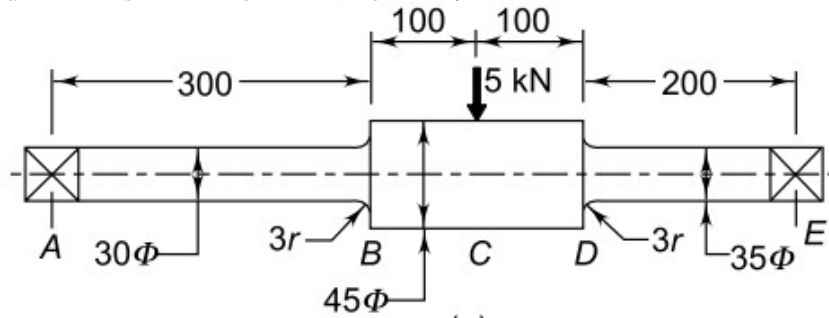

Fig. 1
Q.2(a) A rotating shaft, subjected to a nonrotating force of 5 kN and simply supported between two bearings A and E is shown in Fig. 1. The shaft is machined from plain carbon steel 30C8 ($S_{ut} = 500 \text{ N/mm}^2$) and the expected reliability is 90%. The equivalent notch radius at the fillet section can be taken as 3 mm. What is the life of the shaft? (Take $s_e' = 0.5$, S_{ut} , $K_a = 0.79$, $K_b = 0.85$, $K_c = 0.897$, $K_t = 1.72$) [5] CO1 L2